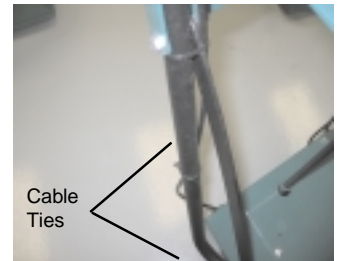

Figure 11-8
7. Position control cables and use 2 cable ties on each handle to secure the cables in position. The top cable tie should be 1" below the console and the lower tie should be 12" below the console (see figure 11-8 and 11-9).
8. Check the position of the shift rod guide (Item 69), and if necessary, snap it in place in the shift bracket (Item 78) as shown in Figure 11-8.